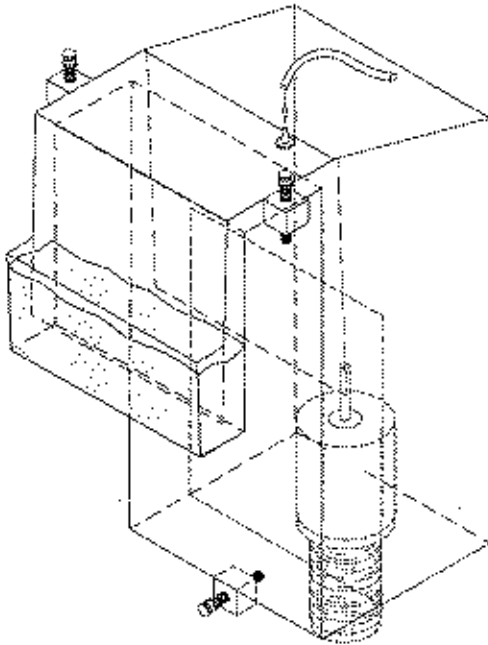

Fig. 1
6. Adjust the height of the unit with the two top adjustment screws so the water level is about 1/4" above the edge of the front chamber.(FIG 1) Make sure that the overflow is level with the water surface, not necessarily the tank, as some tanks may not be perfectly level. If you have small fish, raise the fish screen up so that the fish cannot enter the overflow. The screen needs to be raised above the water level in order to prevent fish loss. ~~If you don't have small fish, discard the fish screen.~~